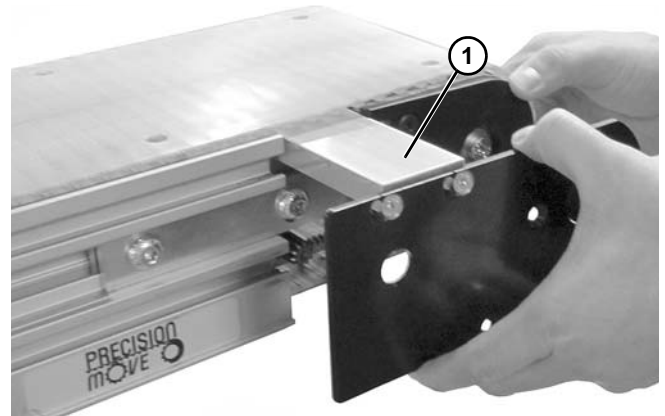

Figure 33
7. Remove gap filler plate assembly (**Figure 33, item 1**).